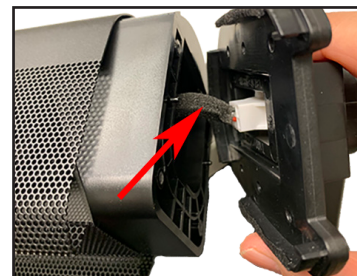

Figure 17. One Endcap Removal
1.2 Lift off both endcaps. Figure 17.